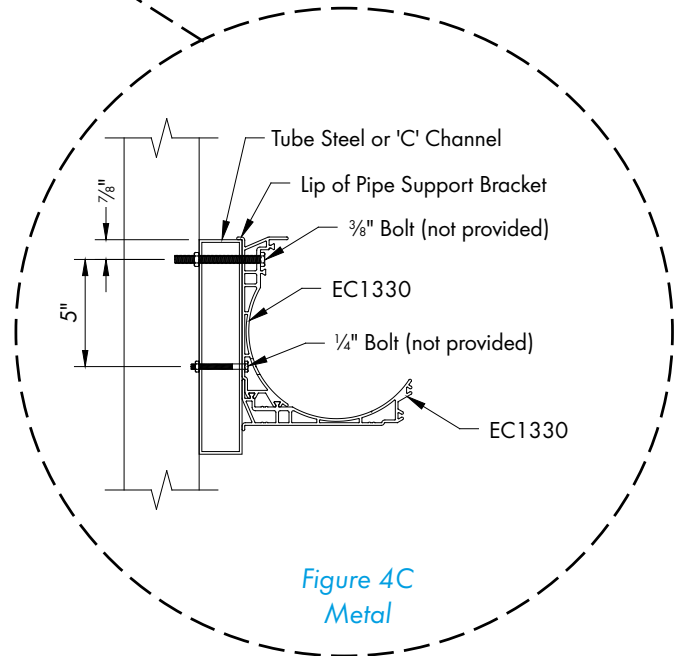

Figure 4C
**NOTE:** If metal framing is required, replace all 2x treated framing with 'C' channel or tube steel. Framing should be Aluminum or painted galvanized. See Figure 4C on page 7.